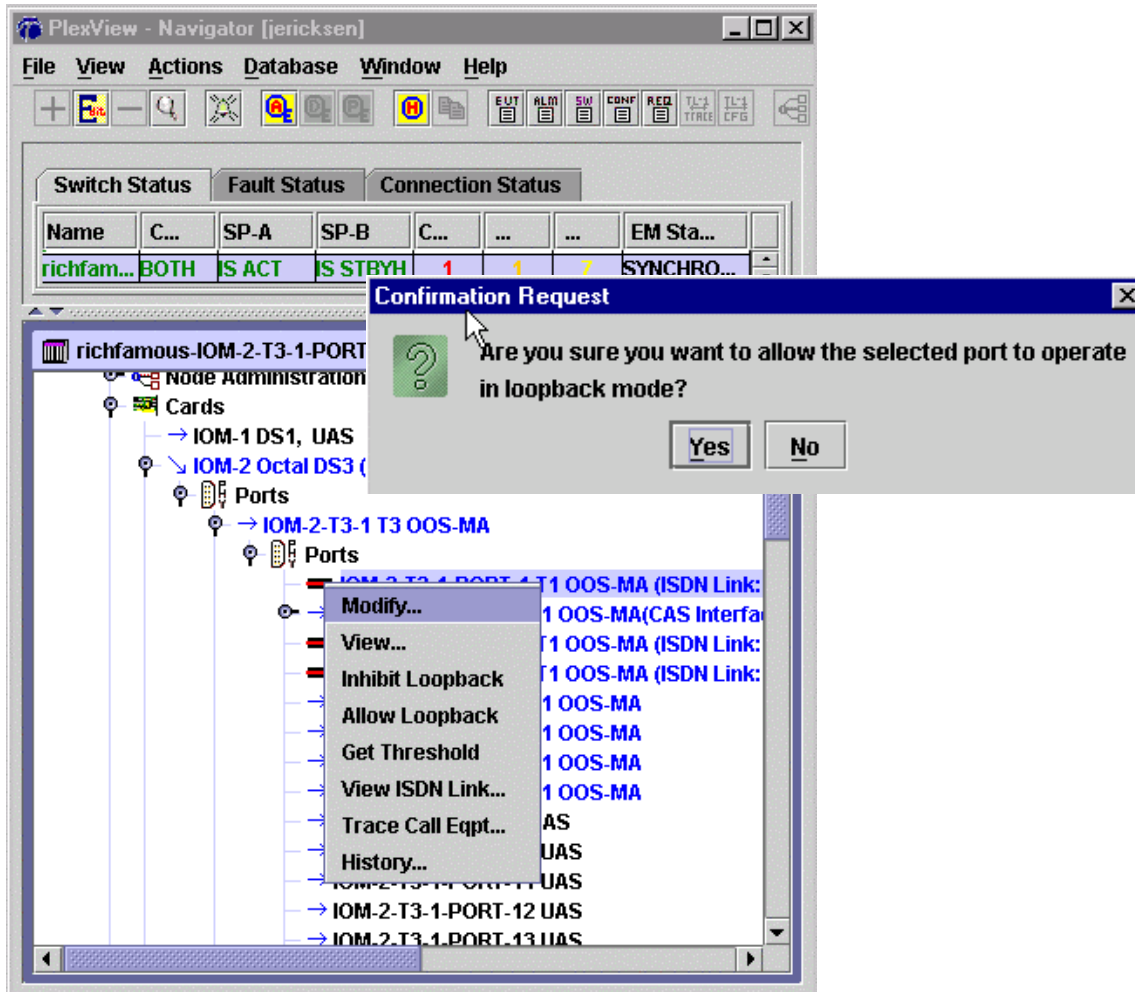

Figure 1. Allowing T1 Loopbacks
4. Allow a port of the Plexus 9000 to respond to a remote T1 loopback request. Double-click the switch to select it for the main panel and then right-click the switch name. Click *Cards*, desired *IOM* and *Ports*. If the IOM is a DS3 IOM, then click *DS3 port* and *Ports*. Right-click the desired port and select *Allow Loopback*. Click *Yes* in displayed frame to allow loopbacks. See Figure 1.